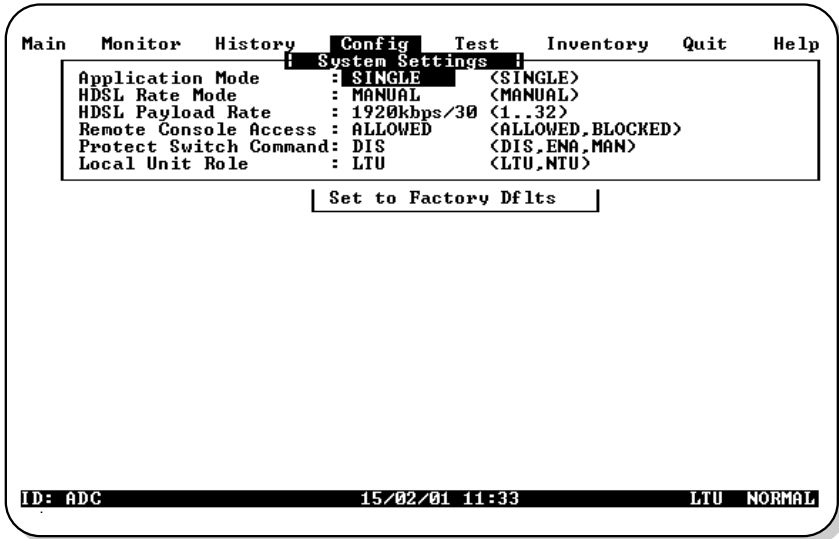

Figure 14. Config System Settings Menu
- 1 Press **S** at the Config drop-down menu to display the Config System Settings menu. Figure 14 shows the Config System Settings menu for the UTU-731 and UTU-732.
The Data Rate/# of TSs and Beginning TS parameters in the Config LTU and NTU Interface menus are read-only displays. The Data Rate/# of TSs value is set in the Config System Settings menu as the “HDSL Payload Rate” (see Figure 14 on page 27). The Beginning TS value is automatically set to 0 when 32 time slots are selected (unstructured mode) and set to 1 when less than 32 time slots are selected (structured mode).